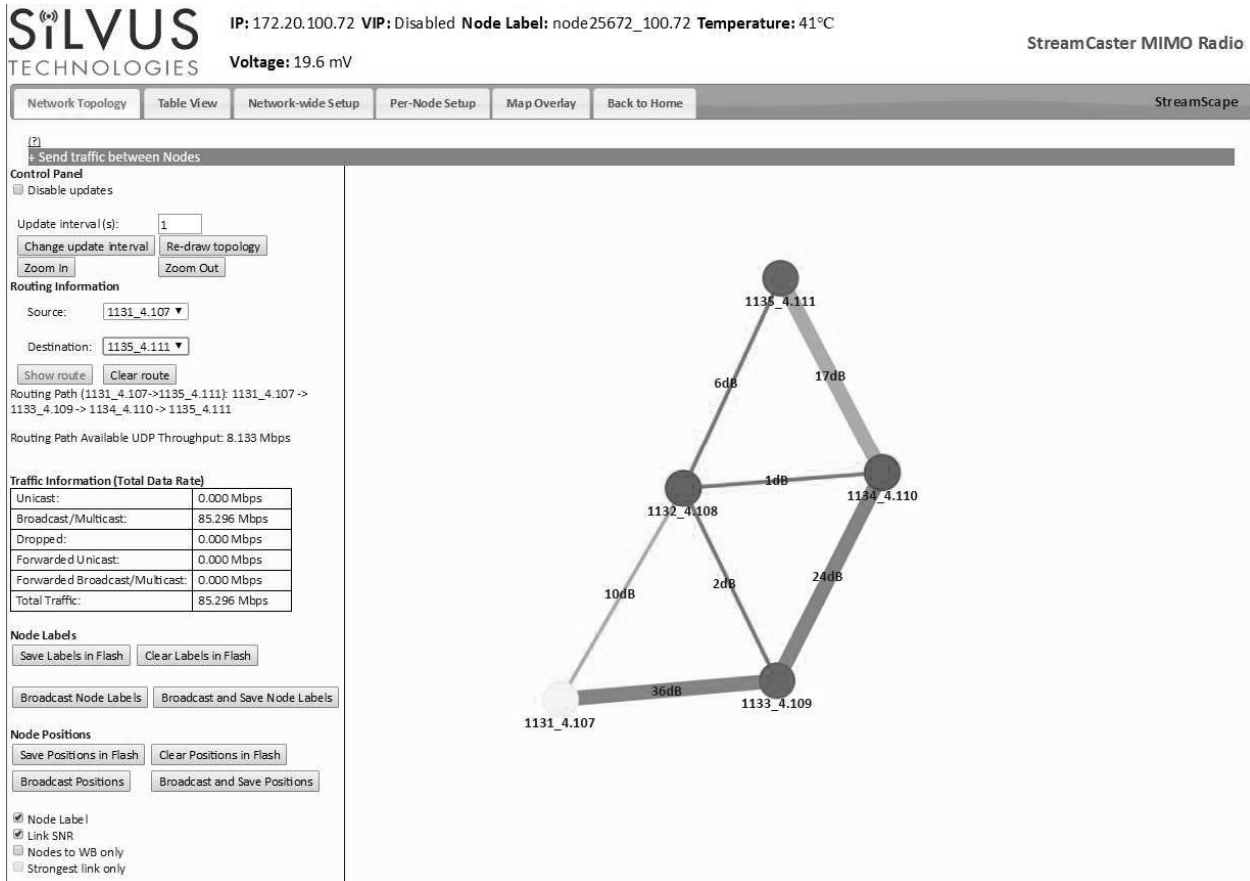

Figure 56 Routing Path
- Routing Information** – The user can view the routing path between any 2 nodes within a network by simply specifying the source and destination node in the Control Panel on the left hand side. The path will turn bold as shown in **Figure 56** for the path from ‘node4411’ to ‘node4569’.